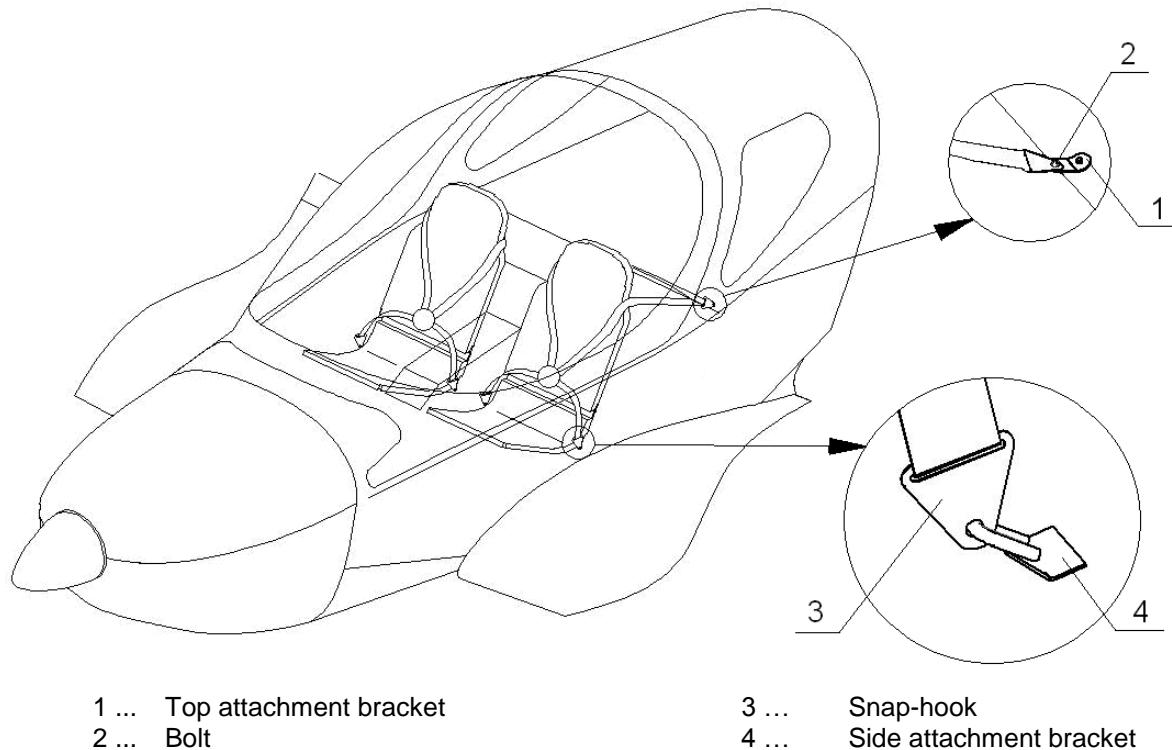

Fig. 7-2: Removal/Installation of safety harnesses
- (a) Remove shoulder harnesses from the top attachment brackets (1) in luggage compartment (see Fig. 7-2). Remove the nut with distance washer and the bolt (2).
- (b) Remove the side harnesses from the side attachment brackets (4) - remove snap-hook (3).
- (a) Install the side harnesses (see Fig. 7-2) - put snap-hooks (3) into side attachment brackets (4) on the gear channel.
- (b) Install the shoulder harnesses - put on the bolt (2) distance washer and insert the bolt (2) into the top attachment bracket (1) in luggage compartment and screw the nut.